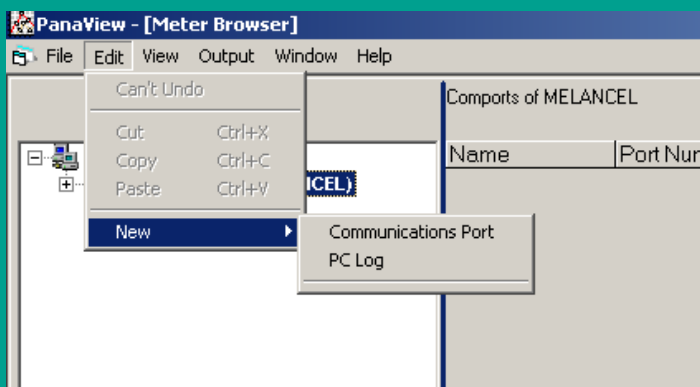

Figure 18: Edit menu
3. Click on the "new" menu option to select it, and a submenu opens with two choices on it (see figure 18).